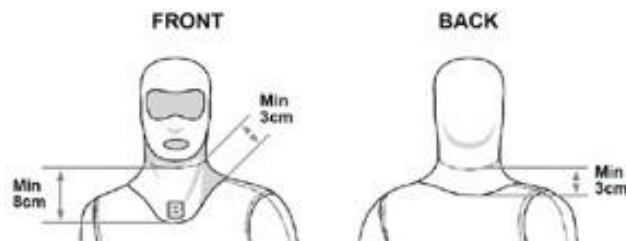

Figure 1 – minimum overlapping at the neck area.
15.3.2 There is a minimum overlap required in the neck area (between the balaclava and the top underwear) of 3cm, except on the front central line where the overlap shall be at least of 8cm as shown in Figure 1.